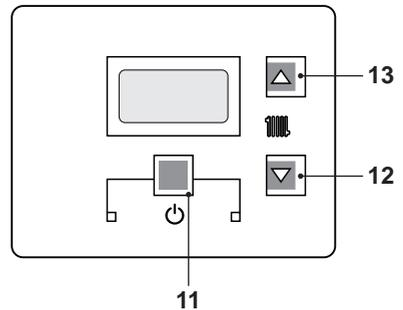
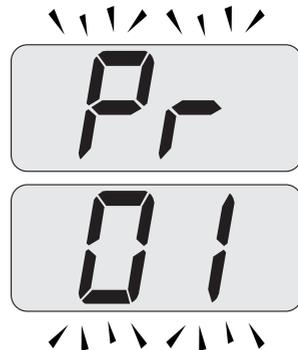

Fig. 7.46
Fig. 7.47
- Enter the "programming mode" by pressing keys 11 - 12 - 13 (Fig. 7.46) for 10 seconds at the same time until the letters **Pr** that alternate with code **01** are displayed on the LCD display, indicating that "parameter 01"(Fig. 7.47) has been activated.
- Press keys 11 and 13 (Fig. 7.46) at the same time until the value of parameter 06 (06=Activ A 18S or 08=Activ A 25S or 09=Activ A 30S) is displayed on the LCD display (Fig. 7.48).
- Press keys 11 and 12 (Fig. 7.46) at the same time to exit without changing the value (return to the parameters list Fig. 7.47)
- Press keys 11 - 12 - 13 (Fig. 7.46) at the same time for 10 seconds to exit the "programming mode".